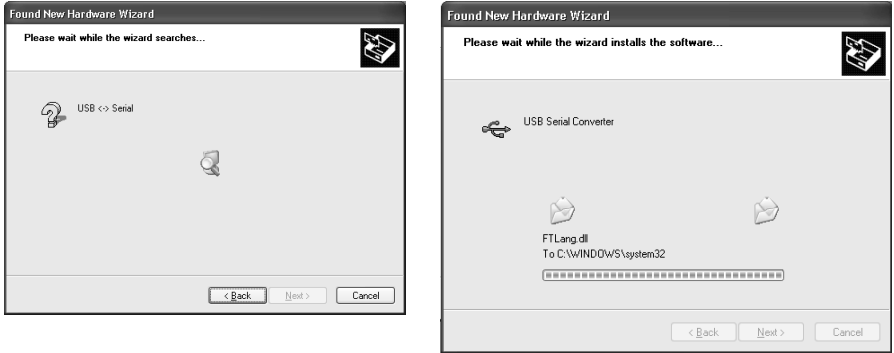

Figure 8 : The Wizard proceeds to search and install the USB driver
9. The Wizard proceeds to search and install the USB driver (Figure 8).